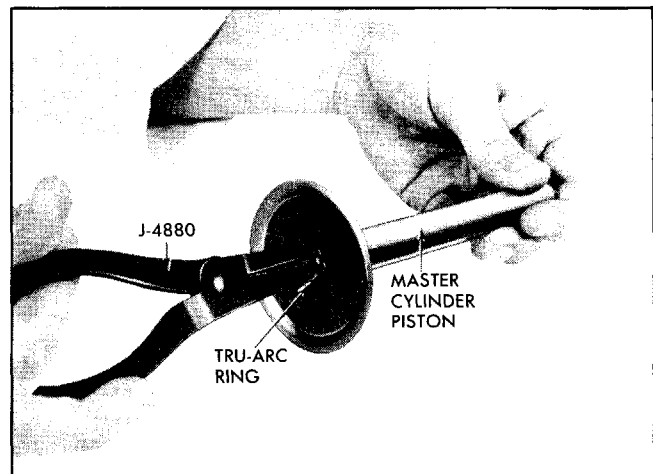

Fig. 5-57 Removing or Replacing Reaction Plate Snap Ring
10. Examine the reaction plate, which is held to the end of the master cylinder piston by small Truarc ring. If it is necessary to remove the reaction plate, expand the Truarc ring with special pliers J-4880 and lift off reaction plate (Fig. 5-57).
2. Place reaction plate over small end of piston with raised edge extending outward (Fig. 5-57).
3. Retain reaction plate on plunger with Truarac snap ring using special pliers J-4880 (Fig. 5-57).